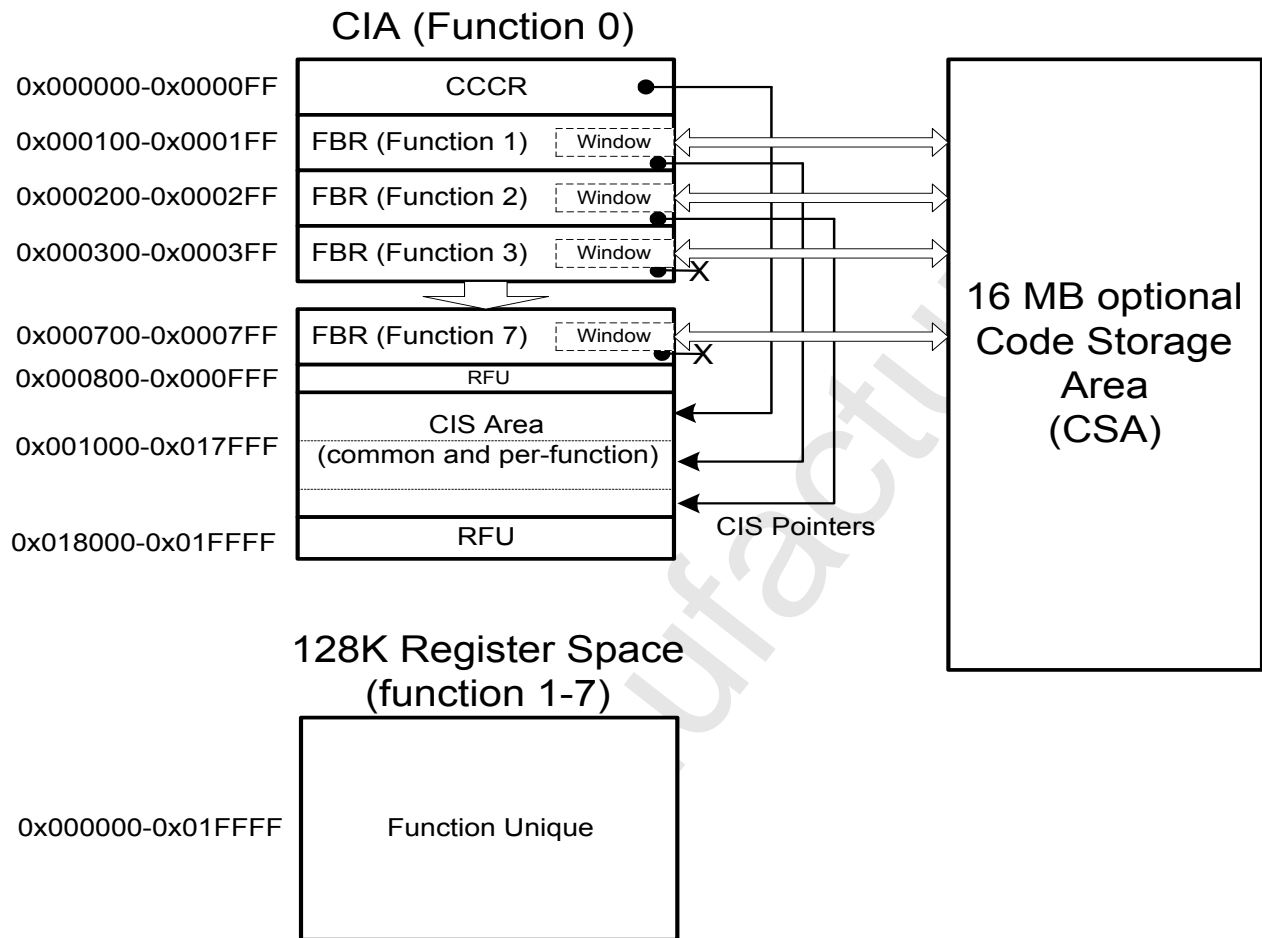

Figure 6-1 : SDIO Internal Map
Each SDIO card may have from 1 to 7 functions plus one memory function. A function is a self contained I/O device. I/O functions may be identical or completely different from each other. All I/O functions are organized as a collection of registers. There is a maximum of 131,072 (2^{17}) registers possible for each I/O function. These registers and their individual bits may be Read Only (RO), Write Only (WO) or Read/Write (R/W). These registers can be 8, 16 or 32 bits wide within the card. All addressing is based on byte access. These registers can be written and/or read one at a time, multiply to the same address or multiply to an incrementing address. The single R/W access is often used to initialize the I/O function or to read a single status or data value. The multiple reads to a fixed address are used to read or write data from a data FIFO register in the card. The read to incrementing addresses is used to read or write a collection of data to/from a RAM area inside of the card. Figure 6-1 shows the mapping of the CIA and optional CSA space for an SDIO card.
The SDIO card has a fixed internal register space and a function unique area. The fixed area contains information about the card and certain mandatory and optional registers in fixed locations. The fixed locations allow any host to obtain information about the card and perform simple operations such as enable in a common manner. The function unique area is a per-function area, which is defined either by the Application Specifications for Standard SDIO functions or by the vendor for non-standard functions. Figure 6-1 shows the internal map of an SDIO card with multiple functions.